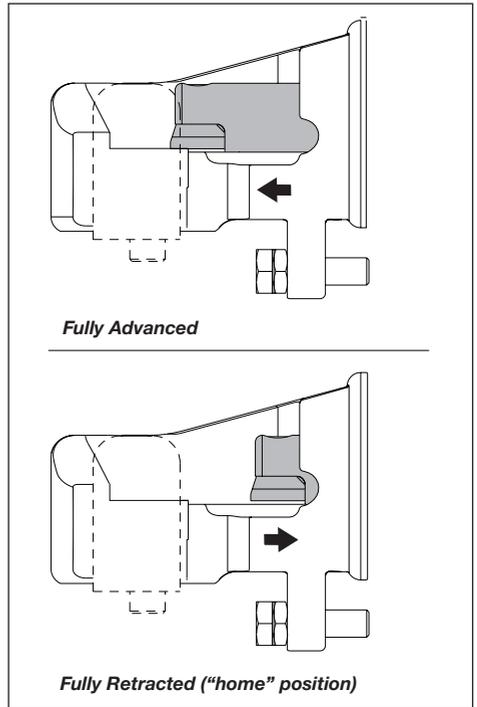

Figure 8, Piston Positions (viewed from top)
Be sure that the piston and moving blade are located in the fully retracted “home” position before placing any material inside the cutting head. See Figure 8.
2. Be sure that the piston is in the “home” (fully retracted) position. See Figure 8.